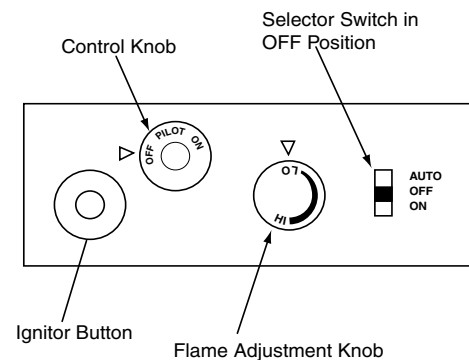

Figure 17 - Control Knob and Ignitor Button Location, Manual Controlled
- Press in and turn control knob clockwise  to the OFF position (see Figure 17).
- Wait five (5) minutes to clear out any gas. Then smell for gas, including near the floor. If you smell gas, **STOP!** Follow "B" in the safety information, starting in column 1 of this page. If you don't smell gas, go to the next step.
- Press in and turn control knob counterclockwise  to the PILOT position. Press in control knob for five (5) seconds (see Figure 17).